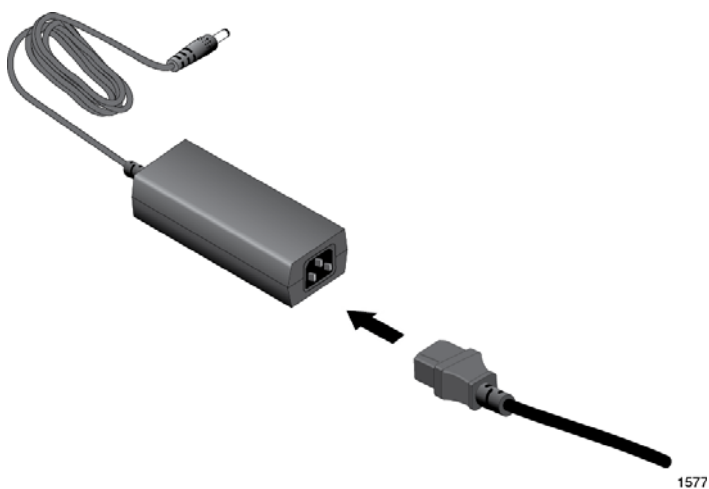

Figure 25. Connecting the Power Cord to the AC/DC Adapter
10. Connect the power cord to the AC/DC adapter. Refer to Figure 25.